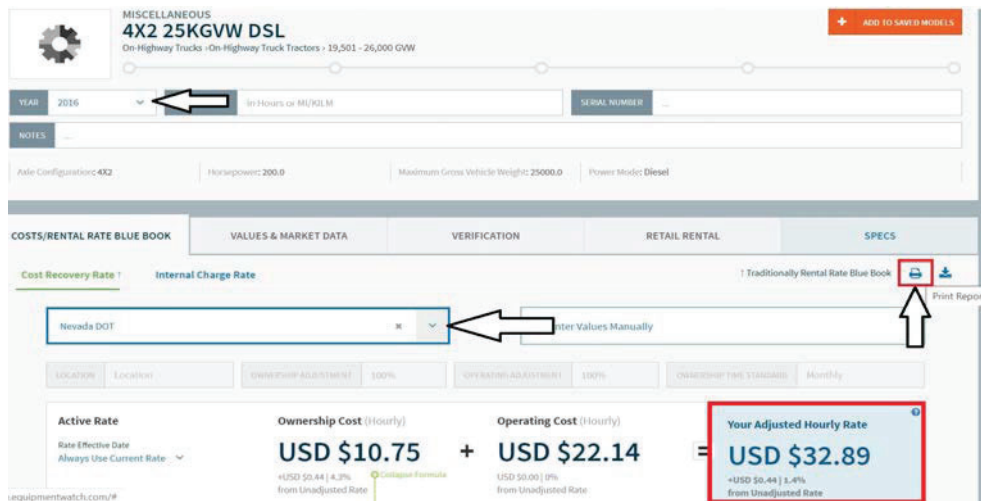

Figure 4-18: EquipmentWatch Equipment Rates
- iv. The equipment records opens. Select the year and Nevada DOT (Figure 4-18). Record the 'Your Adjusted Hourly Rate' amount on the Daily Costs of Force Account w Standby form in the EQUIPMENT section, under the Rate column (Figure 4-5).
- v. Click the Print Report icon (Figure 4-18).